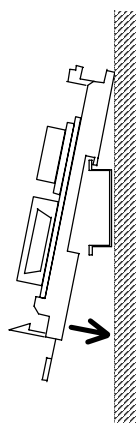

Figure 2
3. Attach the top bracket of the mother block to the DIN rail and push the lower section into place on the DIN rail. (Figure 2)